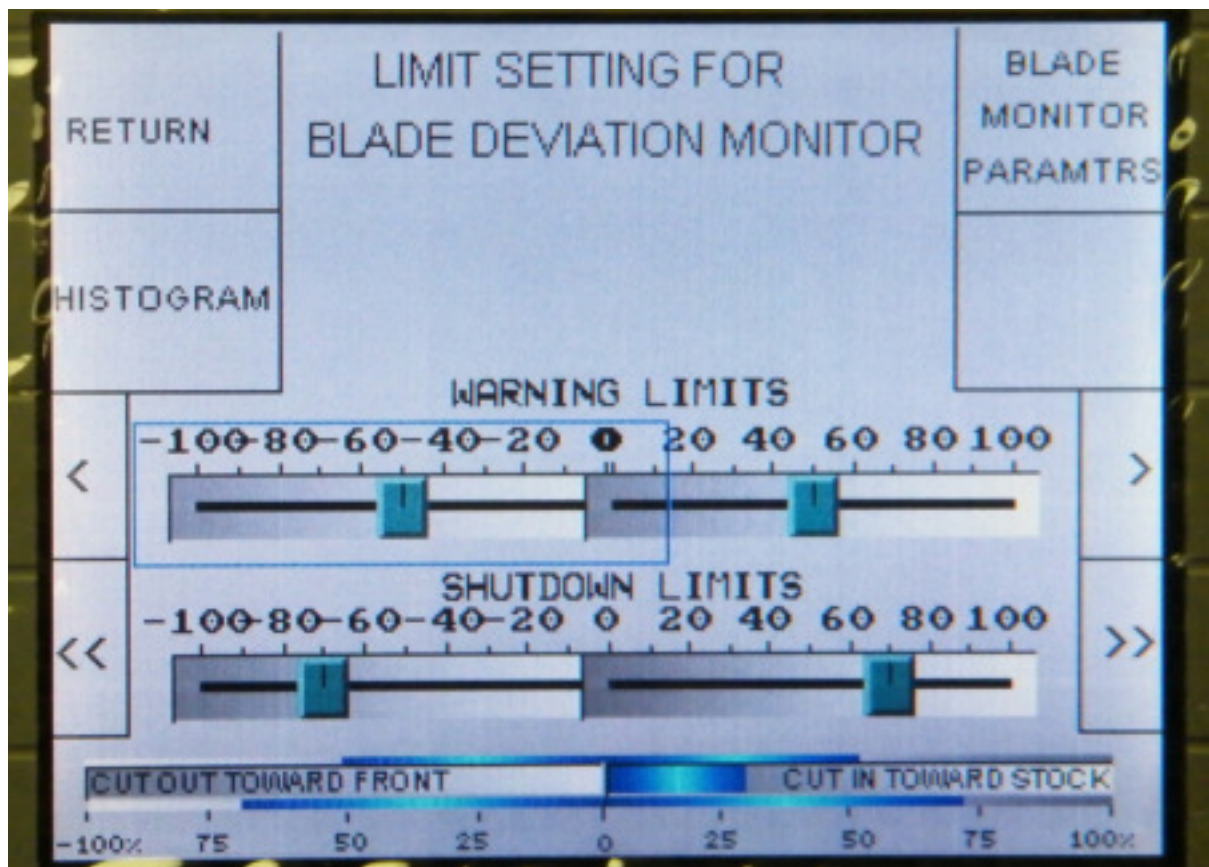

Fig.2
1. Enter the MONITOR LIMIT SETTING screen by pressing function key F1 labeled LmtSet. The MONITOR LIMIT SETTING screen will be displayed (Fig. 2)
To adjust the warning and shutdown limits, enter the MONITOR LIMIT SETTING screen by pressing function key F1 labeled LMTSET (Screen will change as shown in Fig.2)